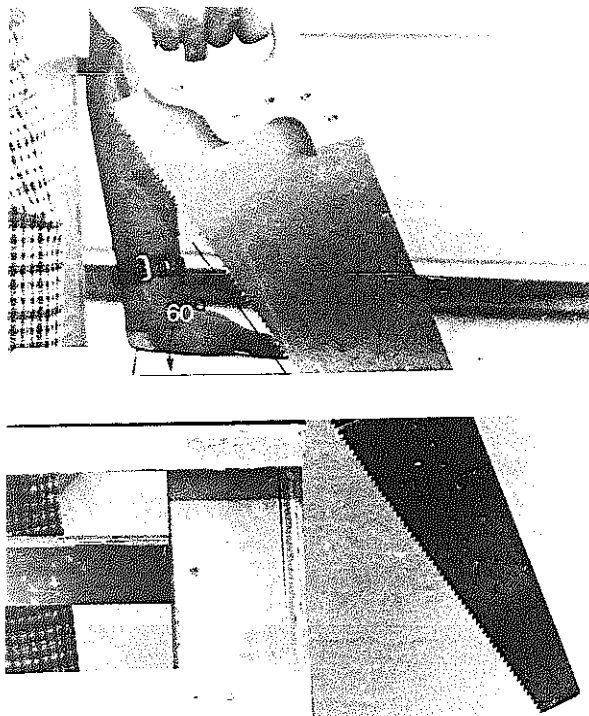

Fig. 6-10 Sawing with a ripsaw.
4. In ripping soft wood, the saw runs smoothly when held at an angle as great as 60 degrees, as shown in figure 6-10. However, if it jerks through the board under the pressure of the downward stroke, decrease the angle (A, figure 6-10), until the saw cuts smoothly.